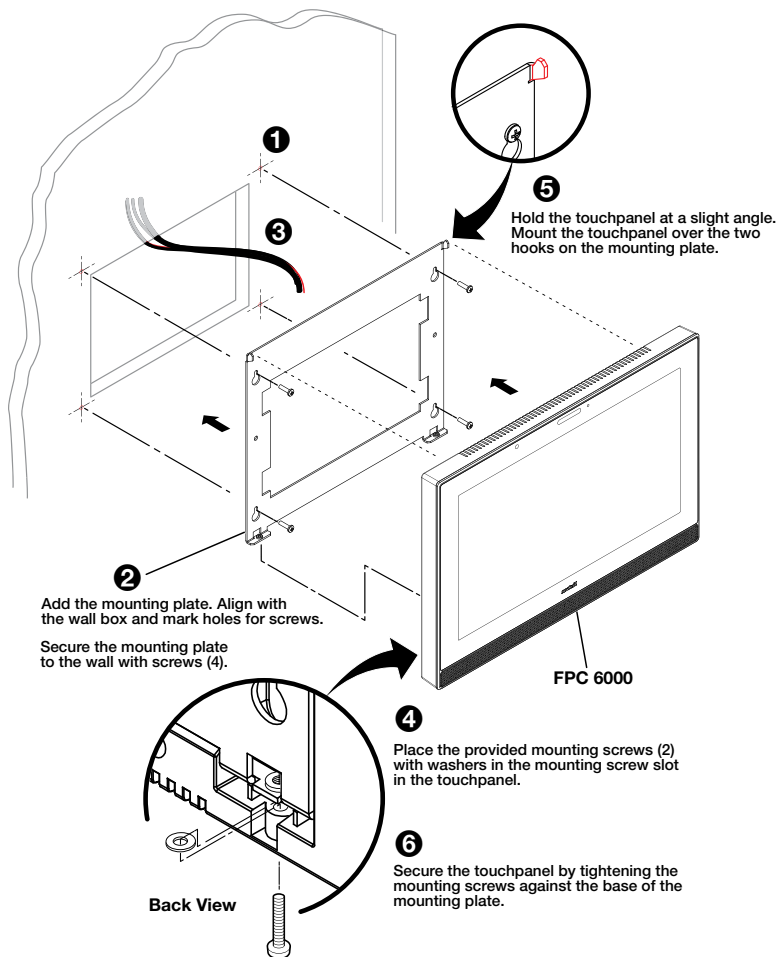

Figure 3. Wall Mounting the FPC 6000
2. Use the template to mark the wall, cut the hole, and drill the four pilot holes (see figure 3, ❶).